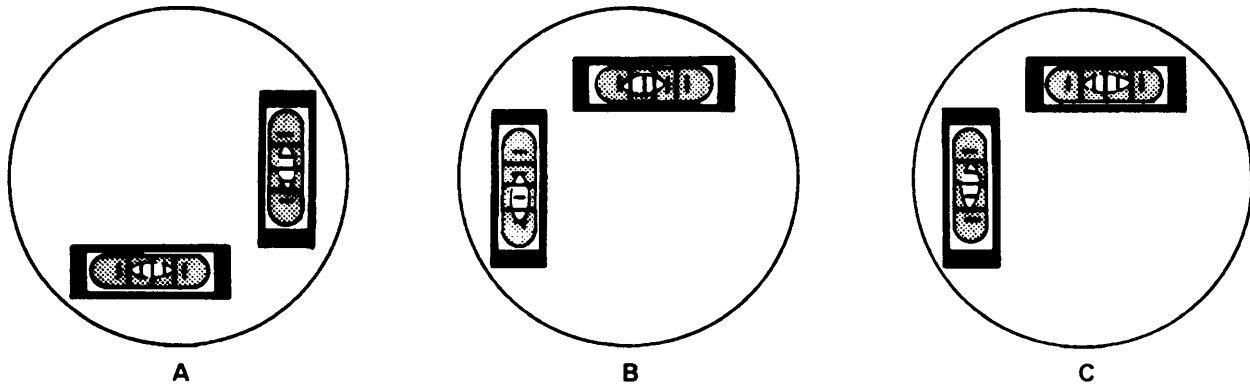

Figure 6-4.—Adjusting the plate bubbles.
**ADJUSTING THE PLATE BUBBLES.**— The purpose of adjusting the plate bubbles is to make the axis of the plate-level tubes perpendicular to the vertical axis (fig. 6-4). This ensures that when the instrument is set up and leveled, the vertical axis is truly vertical. When this condition is met, horizontal angles are measured in a truly horizontal plane and vertical angle do not incur index error because of an inclined vertical axis.
1. Rotate the instrument about the vertical axis and bring each level tube parallel to a set of opposite leveling screws. Bring both bubbles to the center of their tubes by turning the leveling screws (view A, fig. 6-4).
2. Rotate the instrument  $180^\circ$  about its vertical axis. If the bubbles remain centered, no adjustment is necessary. If the bubbles do not remain centered, note the amount of distance that the bubbles move from their center (view B, fig. 6-4) and proceed with Steps 3 through 5.
5. Check the final adjustment by noting that the bubbles remain in the center of the tubes during the entire revolution about the vertical axis (view C, fig. 6-4).